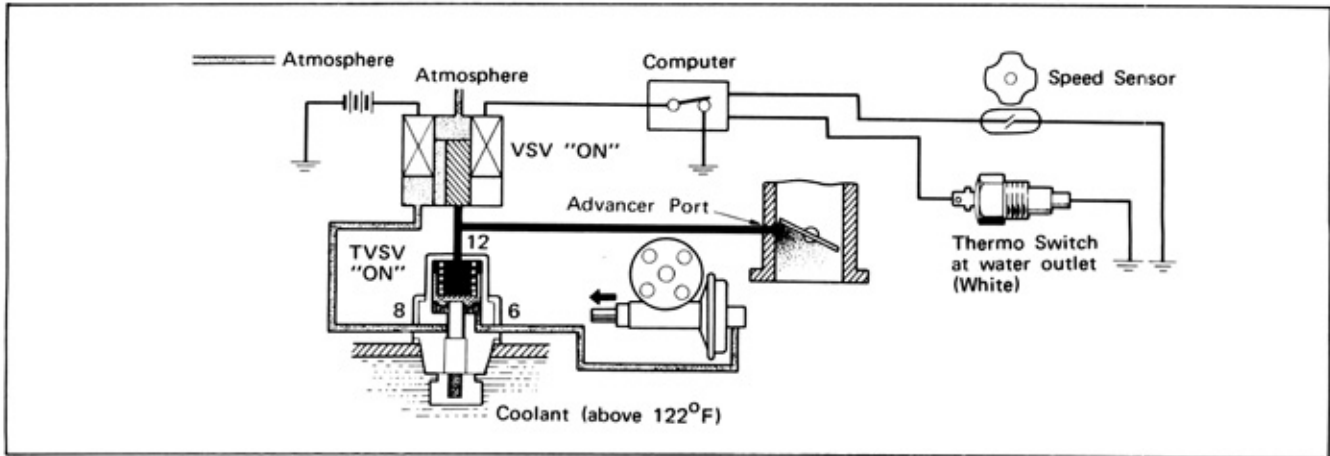

Fig. 18-64 TCS System (20R Engine)
- In the 20R engine, the octane selector should still move. But when the hose No. 8 shown in Fig. 18-64 is reconnected to the distributor, the octane selector should not move.